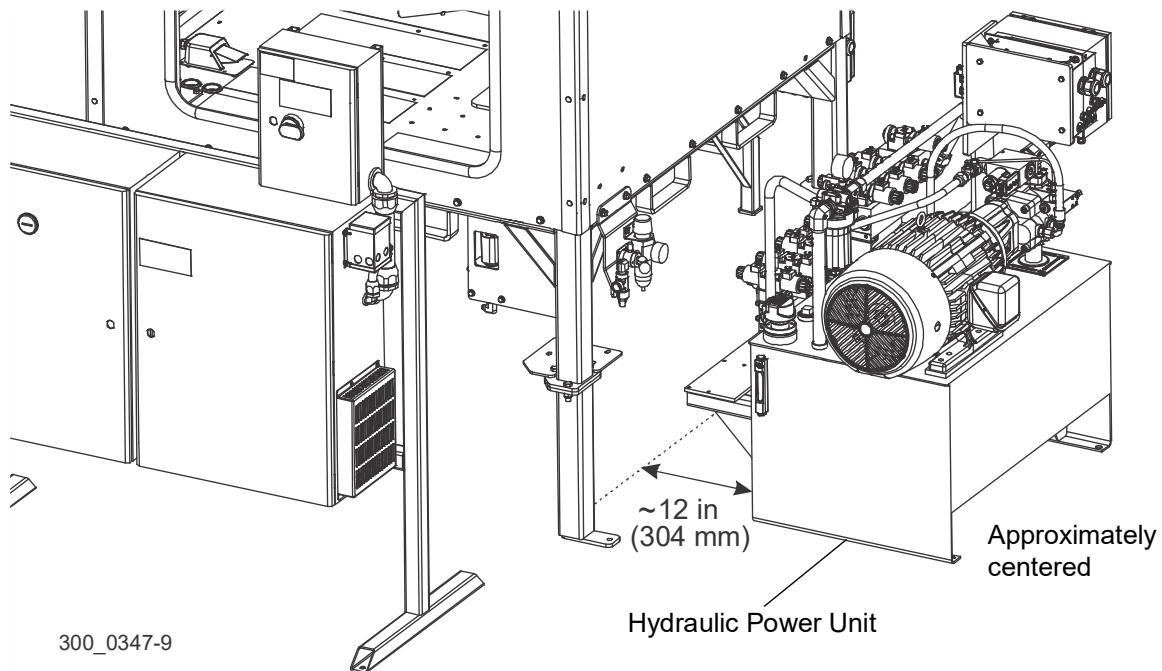

FIG. 3-22
1. Position the hydraulic power unit approximately 12" away from the operator station and approximately centered, as shown in Figure 3-22. See Fig. 3-22.